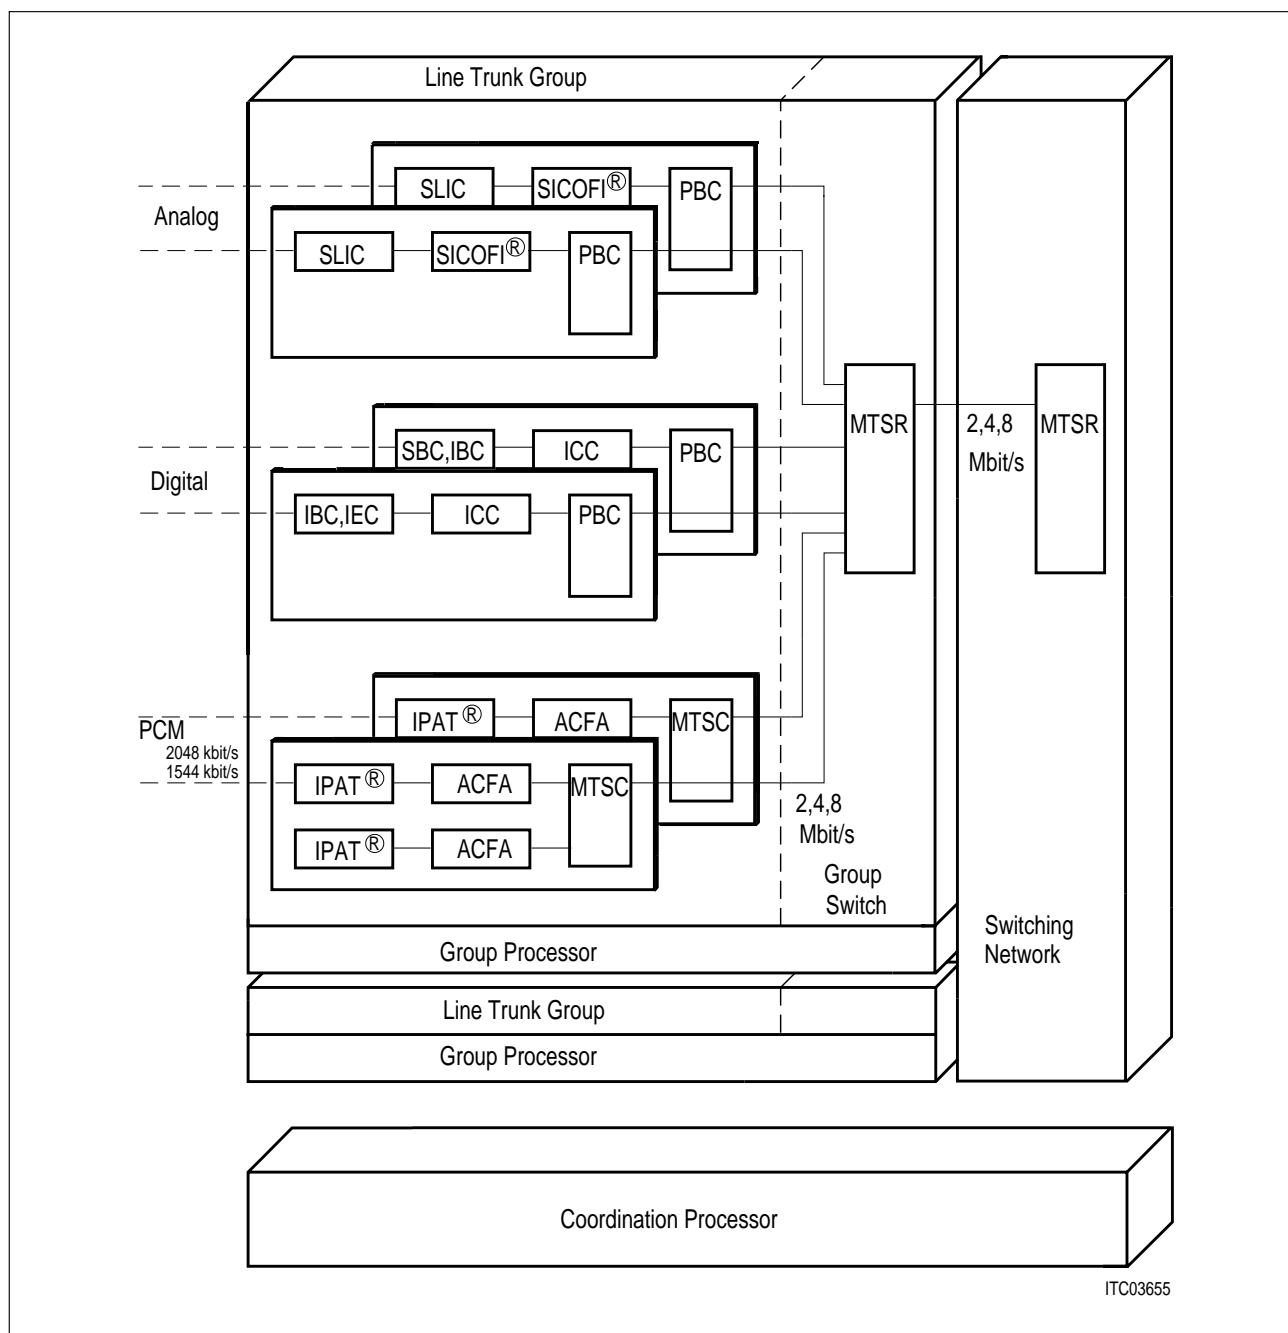

Figure 7
Figure 7 shows the PEx 2045 in its different applications in a digital switching system. It is used here as the main device in the switching network (SN), as a group switch (GS) to connect different digital or analog subscriber line modules (SLMA, SLMD) or digital interface units (DIU) with one another and as the interface device for the digital interface units. The SLICs and SICOFIs (PEB 2060) are subscriber line drivers and codec-filter devices, respectively, for the analog line. SBC (PEB 2080), IEC (PEB 2090), IBC (PEB 2095) and ICC (PEB 2070) are the layer-1 and layer-2 ISDN devices for the digital line. The peripheral board controller PBC (PEB 2050) multiplexes the different lines in a subscriber line module to the 2- or 4-Mbit/s highways, which are input to the group switch.